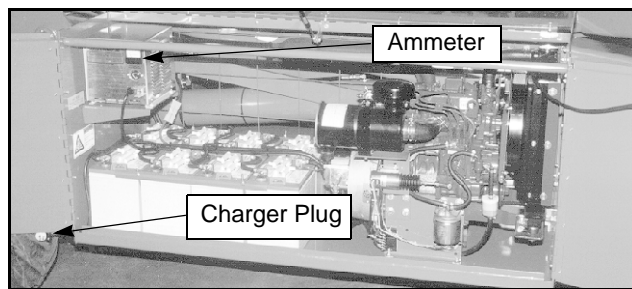

Figure 6: Power Module, Chassis Right Side
3. Connect extension cord (1.5 mm2 [12 gauge] conductor minimum and 15 m [50 ft.] in length maximum) to charger plug located through cutout at the left side of the chassis (Figure 6). Connect extension cord to properly grounded outlet of proper voltage and frequency.